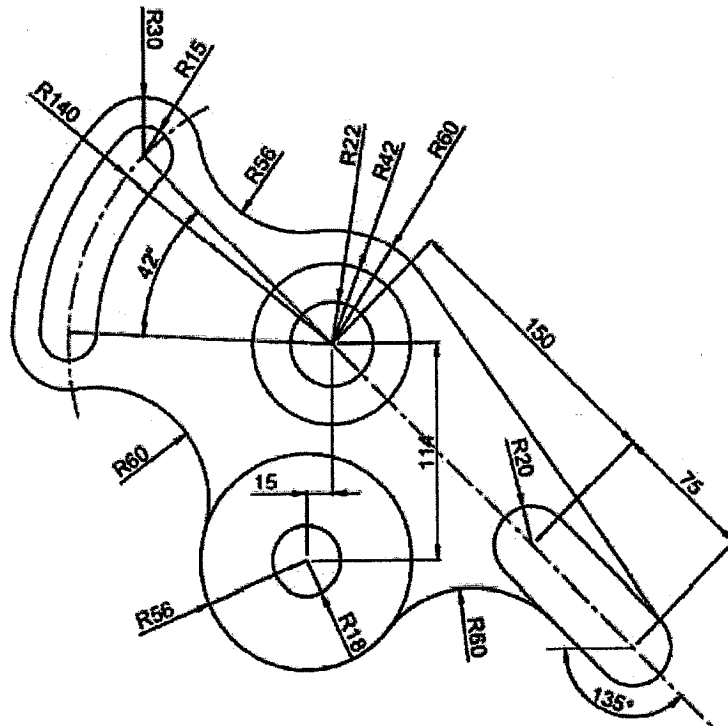

Figure Q2
- Q2. Figure Q2 shows the profile of a Gearbox Cover Plate. Using geometrical constructions, construct the given profile to a scale of 1:2. DO NOT DIMENSION. [15 Marks]